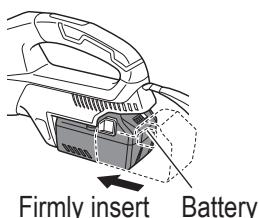

Fig. 16
3. Install the battery (Fig. 16)